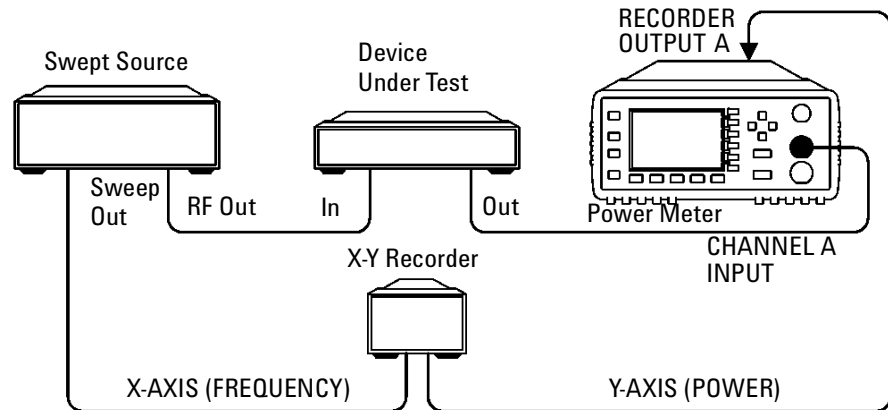

Figure 2-21 Test Setup for Recording Swept Measurements
- monitor the output power on a strip chart recorder. A setup for recording swept measurements is shown in Figure 2-21.